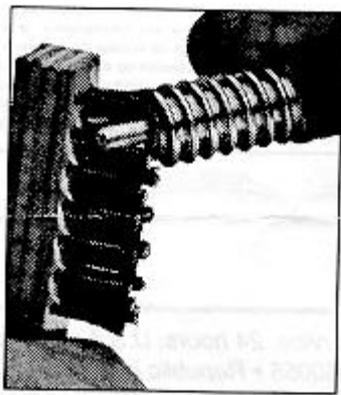

Figure C-5 Brushing off residuals
- 7) Brush off the residuals, as shown in Figure C-5.